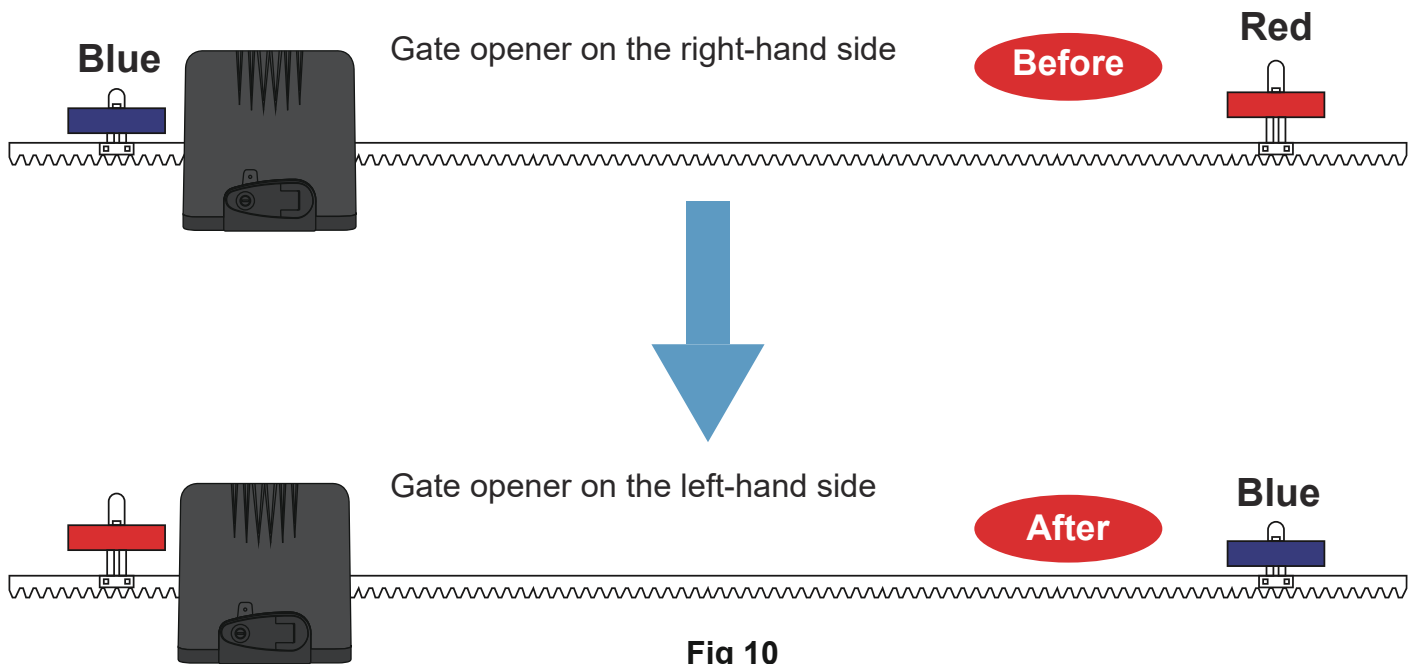

Fig 10
If your gate needs to open from the other direction (to the left, refer to Fig 6 ) your motor needs to be mounted on the left-hand side as shown, you will need to switch 2 wires of motor (Fig 15) at random. And swap over two magnets positions (Fig 10).
- ◆ Pull out the release lock part to be more than 90 degrees, now the gear and shaft are disengaged Refer to the figures below(Fig 10)